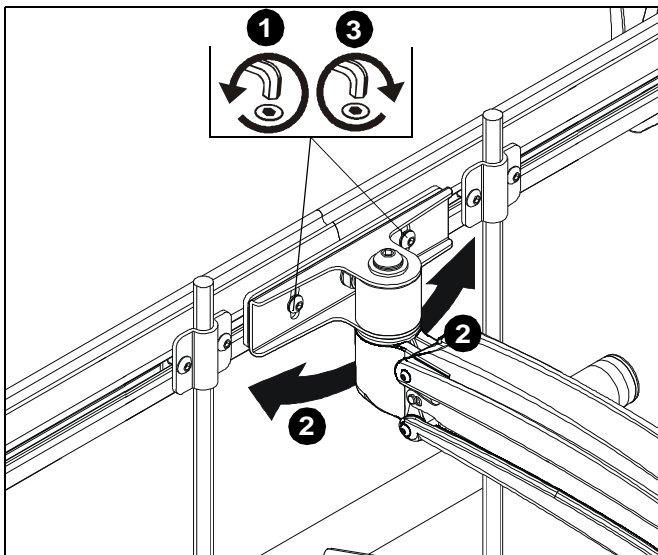

Figure 23
1. Loosen roll adjustment screws on back of array bracket. (See Figure 23)
2. Adjust roll of array bar as desired. (See Figure 23)
3. Tighten roll adjustment screws on back of array bracket. (See Figure 23)